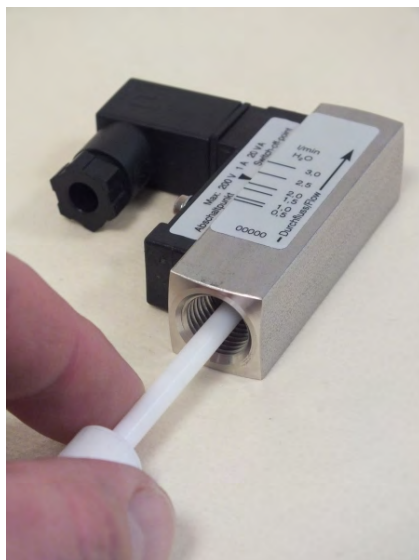

Fig. 49: Check for smooth operation
7. ➤ Check the float for ease of movement (Fig. 49) by applying pressure with the test rod